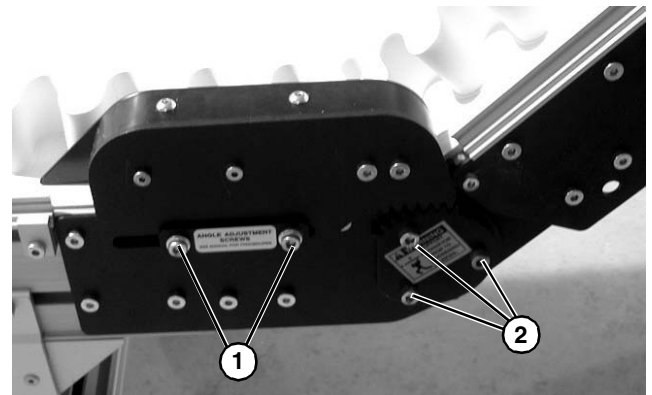

Figure 51
3. Loosen screws (Figure 51, item 1 and 2) on both sides of knuckle.